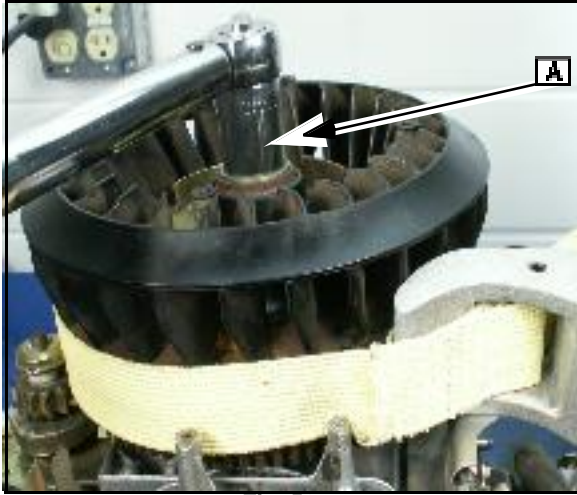

Fig. 50
4. Install flywheel with fan, fan retainer and flywheel nut. Torque nut ([A] Fig. 50) as shown to values listed in section 14.